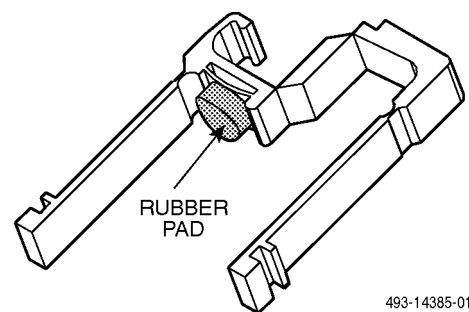

Figure 3-23. T1 Network Cable Retainer
13. Ensure that the rubber pad is properly attached to the black plastic T1 network cable retainer (Figure 3-23).